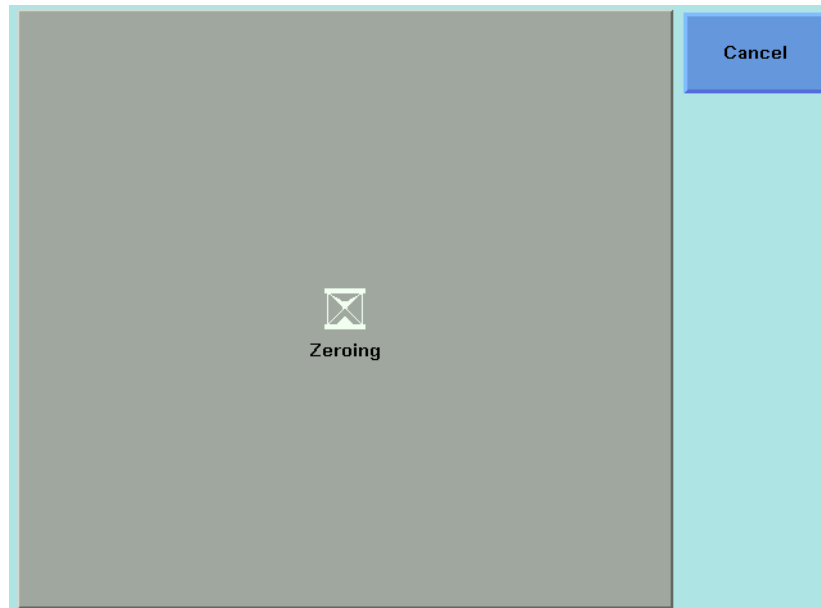

Figure 45 Zeroing Screen
- 3 Move to the *<Zero>* option to zero the current power measurement channel or the *<Zero All>* option to zero all power measurement channels. You will see the screen shown in Figure 45, this appears for around 30 seconds while zeroing is performed.